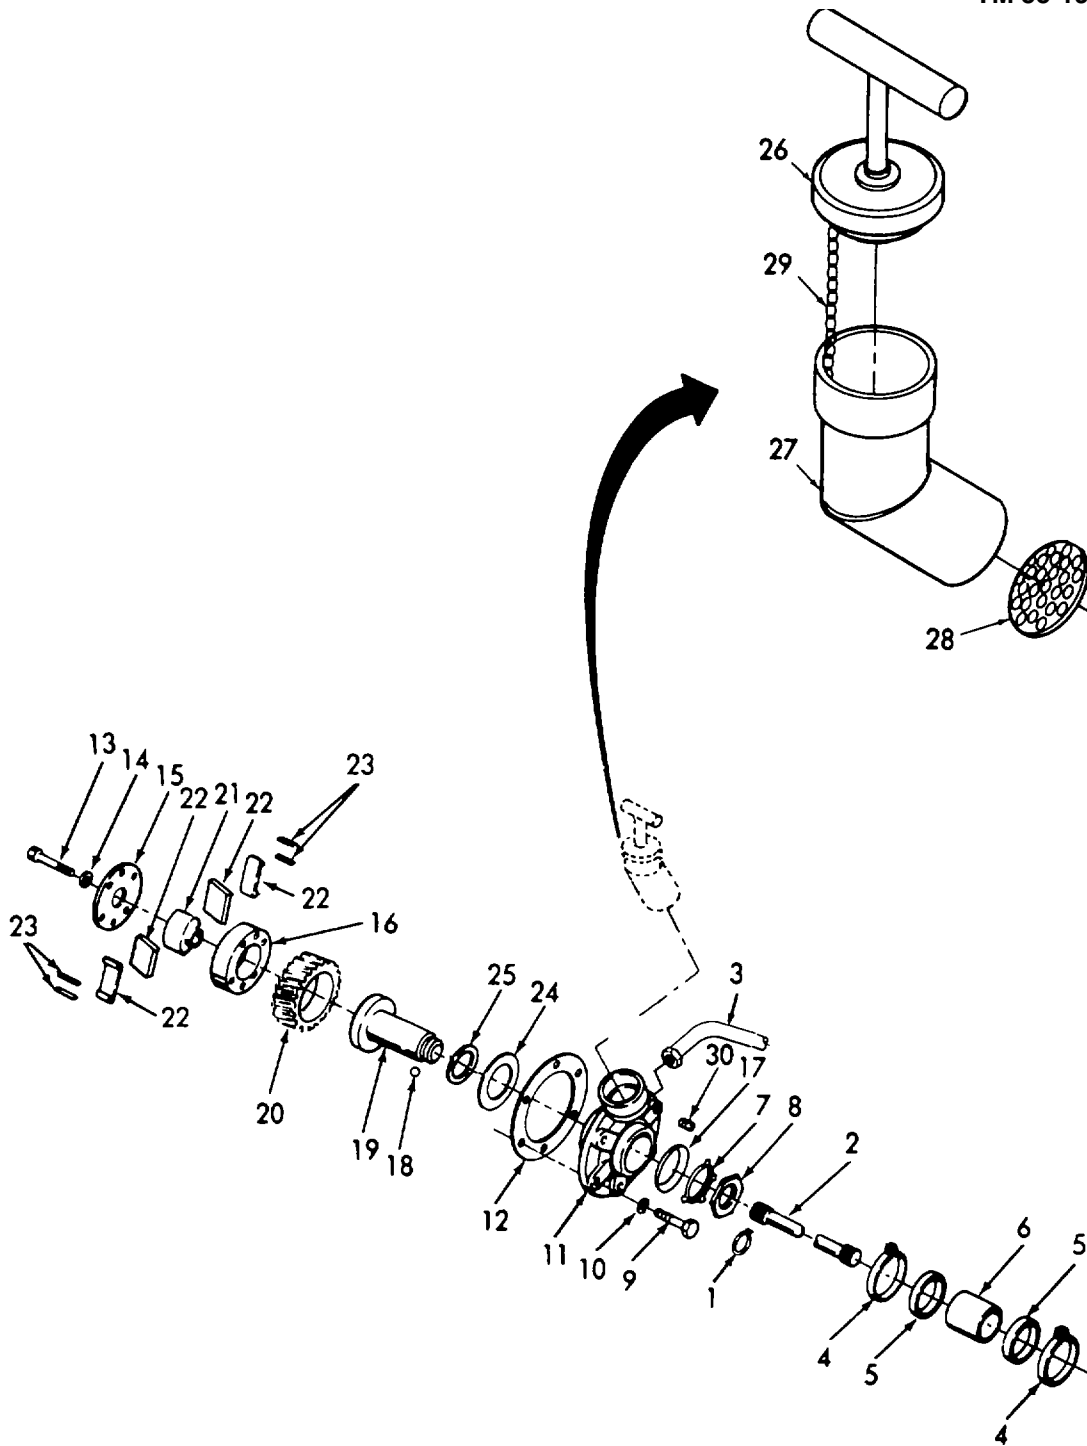

Figure 3-44. Blower Drive, Removal, Disassembly, Reassembly, and Installation.
**3-20. BLOWER DRIVE - Continued.**a. Removal. (Refer to figure 3-44).
- (1) Remove the six bolts that secure the flywheel housing small hole cover.
- (2) Remove snap ring (1). Pull blower drive shaft (2) out of the drive assembly.
- (3) Disconnect blower drive oil line (3) from blower drive support.
- (4) Loosen hose clamps (4) and remove gaskets (5) and bushing (6).
- (5) Straighten the ears on lockwasher (7) and loosen drive gear hub nut (8).
- (6) Remove blower drive support attaching bolt (9) and lockwashers (10).
- (7) Loosen blower drive support (11) by tapping it lightly and withdraw the support from the cylinder block rear end plate. Take care to prevent damage to blower drive gear teeth. Discard gasket (12).
- (1) Refer to figure 3-44 and secure blower drive gear and support assembly in a vise with soft jaws.
- (2) Take out drive coupling bolts (13) and lockwashers (14) and remove retainer (15) and coupling support (16).
- (3) Remove drive gear hub nut (8), lockwasher (7), thrust washer (17), and lock ball (18).
- (4) Press gear hub (19) out of gear (20).
- (5) Remove cam follower (21), springs (22), and seats (23) from coupling support (16).
- (6) Remove thrust washer (24) and bearing (25) from housing.
- (7) Remove oil filler cap (26), oil filler tube (27), and strainer (28) from housing.
- (8) Disconnect chain (29) from filler cap and tube.
- (9) Remove plug (30) from housing.
- (1) Refer to figure 3-44 and install plug (30) in housing.
- (2) Attach chain (29) between oil filler cap (26) and oil filler tube (27). Install filler cap and filler tube with strainer (28) in housing.
- (3) Press drive gear hub (19) into drive gear (20).
- (4) Lubricate drive gear hub, bearing (25) in the housing, thrust surfaces, and thrust washer with engine oil (item 8, Appendix C).
- (5) Place thrust washer (24) on the protruding bearing in gear side of housing and insert drive gear and hub assembly.
- (6) Locate lock ball (18) in its place on drive gear hub and slide thrust washer (17) into position over lock ball. Thrust washer must be installed with tapered face toward the threads on the hub.
- (7) Install new lockwasher (7) and finger tighten hub nut (8). Install two bolts into threaded holes in drive gear hub. Place a suitable holding bar across bolts to keep hub from rotating and tighten hub nut to 50-60 lb-ft (68-81 Nm). Bend the ears of lockwasher against the nut, to lock the nut in place. Remove two bolts from gear hub.
- (8) Place blower drive coupling support (16) on wood blocks. Install call] (21), springs (22), and seats (23) in coupling support.
- (9) Place coupling support against the drive gear with blower drive shaft ring groove in the cam facing away from drive gear. Then, place drive coupling retainer (15) against the coupling support with the flared edge away from the support.
- (10) Revolve coupling assembly on hub flange until cam lobes are in line with oil grooves in the gear hub. Then, install drive coupling bolts (13) and lockwashers (14).
- (1) Refer to figure 3-44 and place a new gasket (12) on mounting face of blower drive support (11).
- (2) Attach blower drive support assembly to cylinder block end plate with bolts (9) and lockwashers (10).
- (3) Install bushing (6) and gaskets (5). Tighten hose clamps (4).